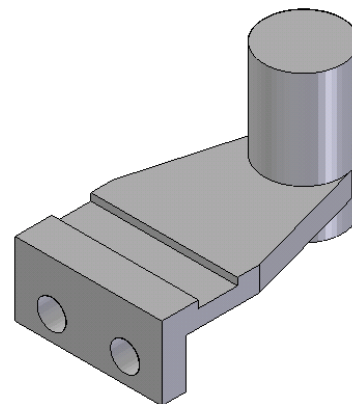

Figure 5-56 Model after creating the cutout feature
- Create two holes on the left face of the base feature using the **Cutout** tool, as shown in Figure 5-56.
5. Move the cursor to the right of the model and left-click to specify the direction of the cutout feature. The model, after creating the cutout feature, is shown in Figure 5-56.